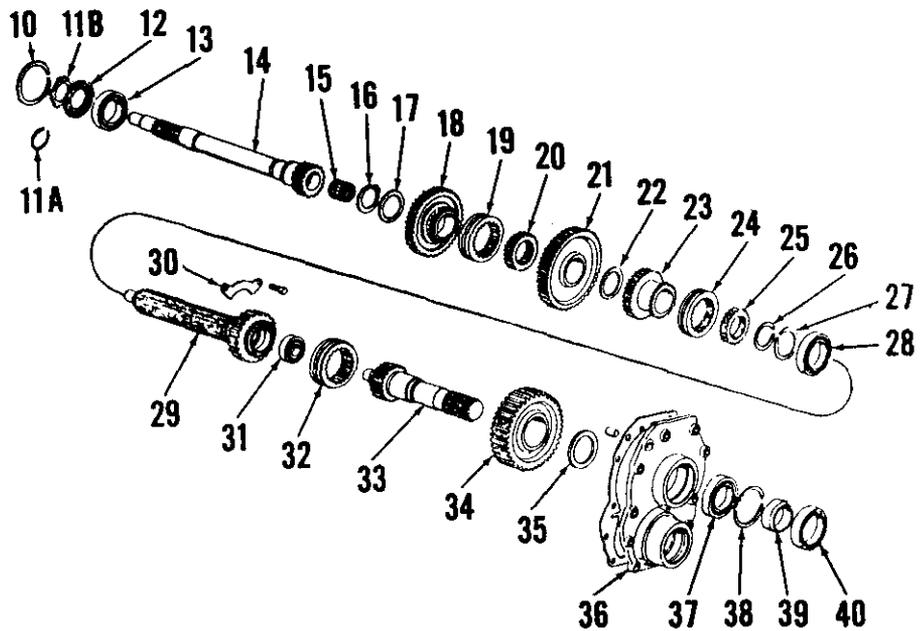
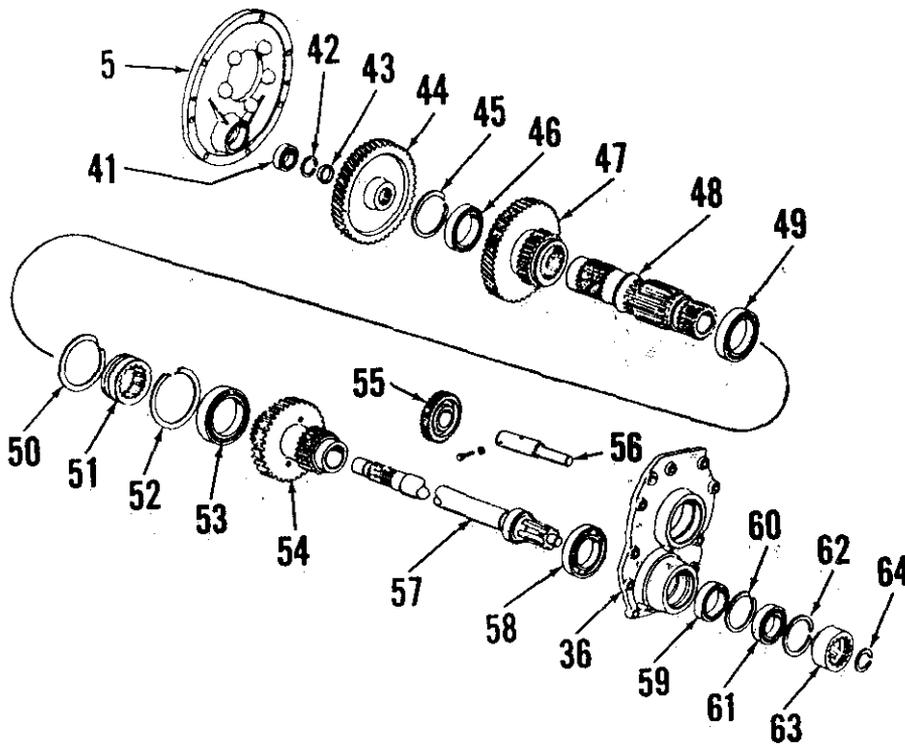

Fig. 193—Transmission upper shafts, gears and associated parts used in six speed models.
Fig. 194—Transmission lower shafts, gears and associated parts used on six speed models with live pto.
On single clutch models, unseat snap ring (10—Fig. 193) and withdraw input
shaft (14) and bearings. On dual clutch models (with transmission removed), remove bearing (41—Fig. 194) using a suitable puller, and unseat and remove snap ring (42). Remove snap ring (64) coupling (63) and snap ring (62) from rear of pto countershaft; then drift countershaft and rear bearing (61) rearward until drive gear (44) can be removed. Transmission input shaft can now be removed by unseating snap ring (10—Fig. 193) and withdrawing shaft and bearing (13). Refer to Fig. 195 for differences between single clutch and dual clutch models.
**206. REAR SUPPORT PLATE, PTO DRIVE SHAFT, OUTPUT SHAFT AND SECONDARY COUNTERSHAFT.** On single clutch models, rear support plate (36—Fig. 193) and associated parts can be removed after splitting tractor between transmission and rear axle center housing as outlined in paragraph 284. On dual clutch models it will be necessary to remove transmission as outlined in paragraph 202 and front support plate as in paragraph 205.
Remove locking wire and rear cover cap screws. On single clutch models, pry support plate from its doweled position on transmission housing. On dual clutch models, remove pto countershaft front bearing (41—Fig. 194) using a suitable puller; remove snap ring (42), then bump pto countershaft (57) rearward until rear plate (36) is free of dowels. PTO output shaft will be removed with rear plate; remove snap ring (64), coupling (63) and snap ring (62), then bump the pto output shaft rearward out of plate.
Transmission output shaft (33—Fig. 193) and secondary countershaft (54—Fig. 194) will remain in transmission housing. Refer to Fig. 196. Partially withdraw secondary countershaft until front bearing clears housing bore, then lower countershaft to bottom of com-
Fig. 192—Exploded view of front support plate and associated parts used on dual clutch models. Transmission input shaft (14—Fig. 193) will remain with transmission and is not removed with front support plate.
Secondary countershaft front bearing (53—Fig. 194) can be removed from shaft using a suitable press or puller; and two 3/16-2 inch steel rods or bolts inserted in holes provided, to apply pressure to inside of inner race of bearing.
**207. MAINSHAFT ASSEMBLY.** To remove the transmission mainshaft assembly (29—Fig. 193), first remove transmission from tractor and remove front support plate, rear support plate, input and output shafts and the shift mechanism as previously outlined.
Use Figs. 193 and 197 as guides if necessary, and assemble by reversing the disassembly procedure. Tighten bearing retaining plate cap screws to a torque of 72-96 inch-pounds.
Remove the idler shaft set screw from outside left of transmission housing. Move shaft forward and lift out high speed fork (13—Fig. 190) and its accompanying sliding coupling; then slide shaft rearward while lifting out reverse idler gear (55—Fig. 194).
**209. MAIN COUNTERSHAFT.** With transmission mainshaft removed as outlined in paragraph 207 and reverse idler removed as in paragraph 208, remove main countershaft (48—Fig. 194) as follows:
Fig. 195—View showing differences in pto drive train in Live PTO models (left) and Transmission PTO models (right). On Transmission pto models, PTO drive shaft (57—Fig. 194) splines into transmission countershaft (48) as shown.